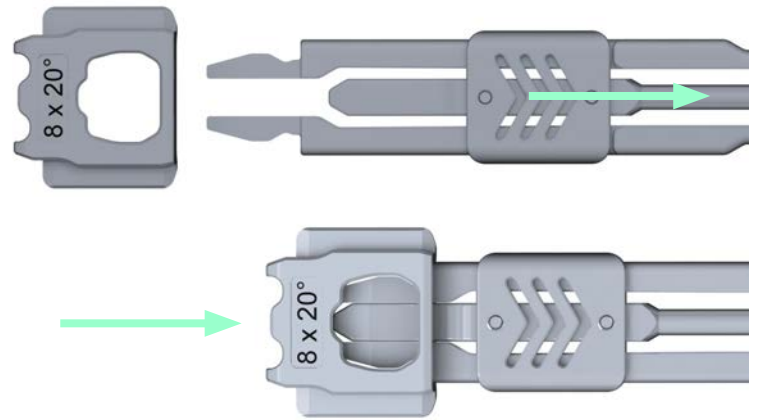

Fig. 22
- The individual Core Trials connect onto the Trial Core Loader (Fig. 22). Slide the button back, attach the trial over its gripper ends and then release to secure the trial onto the loader.